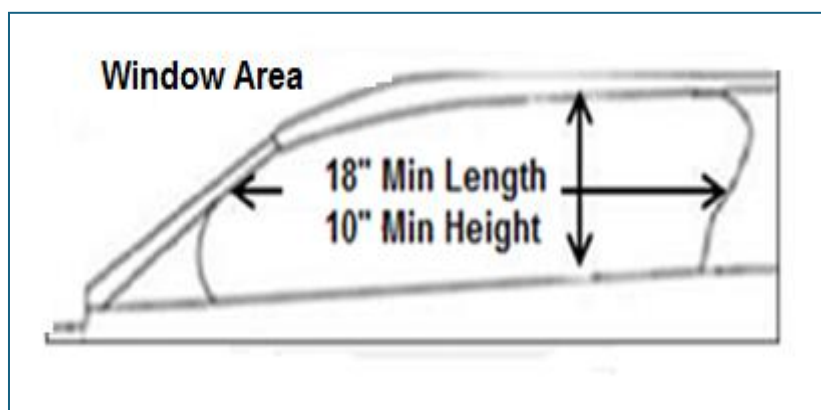

Figure 10
- 11.1** There must be a minimum clear opening of 18 inches long by 10 inches high in both the drivers and passenger side windows (No Tolerance). *(Figure 10)*